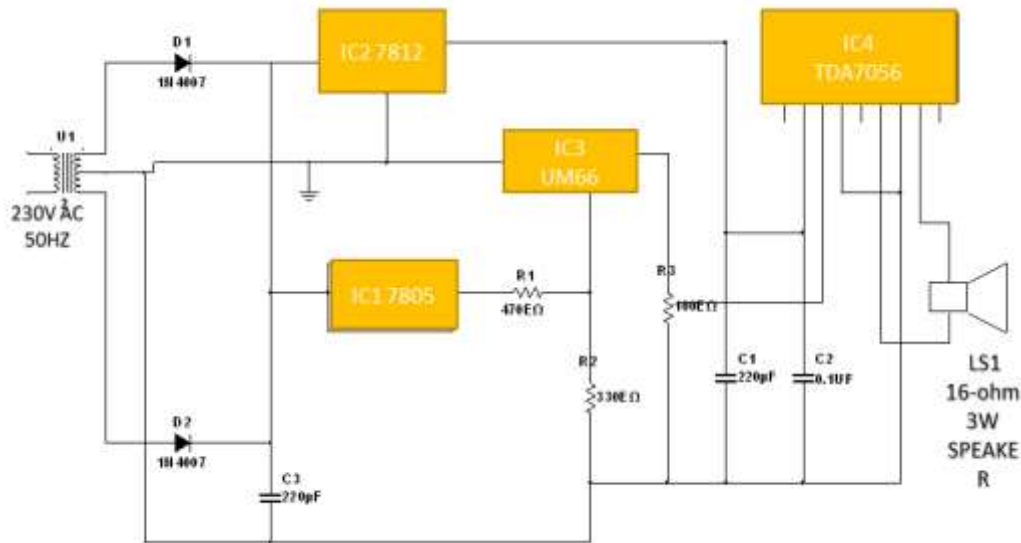

Figure 3:circuit daigram
The mentioned Figure 3 shows circuit of the 3W audio amplifier using TDA7056 IC. This process have two componential operations involved; Power supply, Here the AC power supply is stepped down using transformer X1, and rectified by a full wave rectifier comprising diodes D1(positive half rectification) and D2(negative half rectification), filtered by capacitor C1 and fed to 5V voltage regulator 7805 (IC1) and 12V voltage regulator 7812 (IC2) to maintain constant +5V DC supply for melody generator (UM66) and +12V DC power supply for audio amplifier TDA7056 (IC), respectively. Amplifier, the amplifier block is constructed using two chips: melody generator (UM66) and audio amplifier TDA7056. Melody generator chip UM66 is used to provide audio input to the amplifier. It requires around 3V input. So we use a voltage divider network using resistors R1 and R2 are used to derive 3V from 5V output of the power supply. The output of melody generator (UM66) is connected to the positive input of TDA7056 through a 100-ohm Potmeter (used as voltage dividers, variable resistance) used for volume control. The Vcc pin of TDA7056 is connected to 12V power supply along with two capacitors as shown in Figure 3.